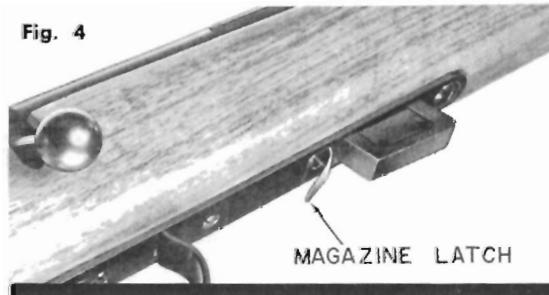

Fig. 4
**TO LOAD MAGAZINE** — The Model 581 clip magazine may be removed by pushing rearward on magazine latch (Fig. 4) and pulling clip from bottom of rifle. Load cartridges into magazine. When fully loaded, magazine will hold five (5) cartridges. To reassemble magazine into rifle, fit channel opening on back of magazine over end of magazine guide. Push magazine upward until locked into place by magazine latch. To load the Model 582 tubular magazine, unlock by turning knurled plug at front end of tube. Pull tube forward from magazine until loading port is open. Load cartridges into port, bullet end forward. Magazine is loaded to capacity when bullet end of last cartridge shows in port. Close tube over cartridges, rotating until plug can be again locked to magazine. If magazine is loaded beyond capacity, plug will not lock into magazine.